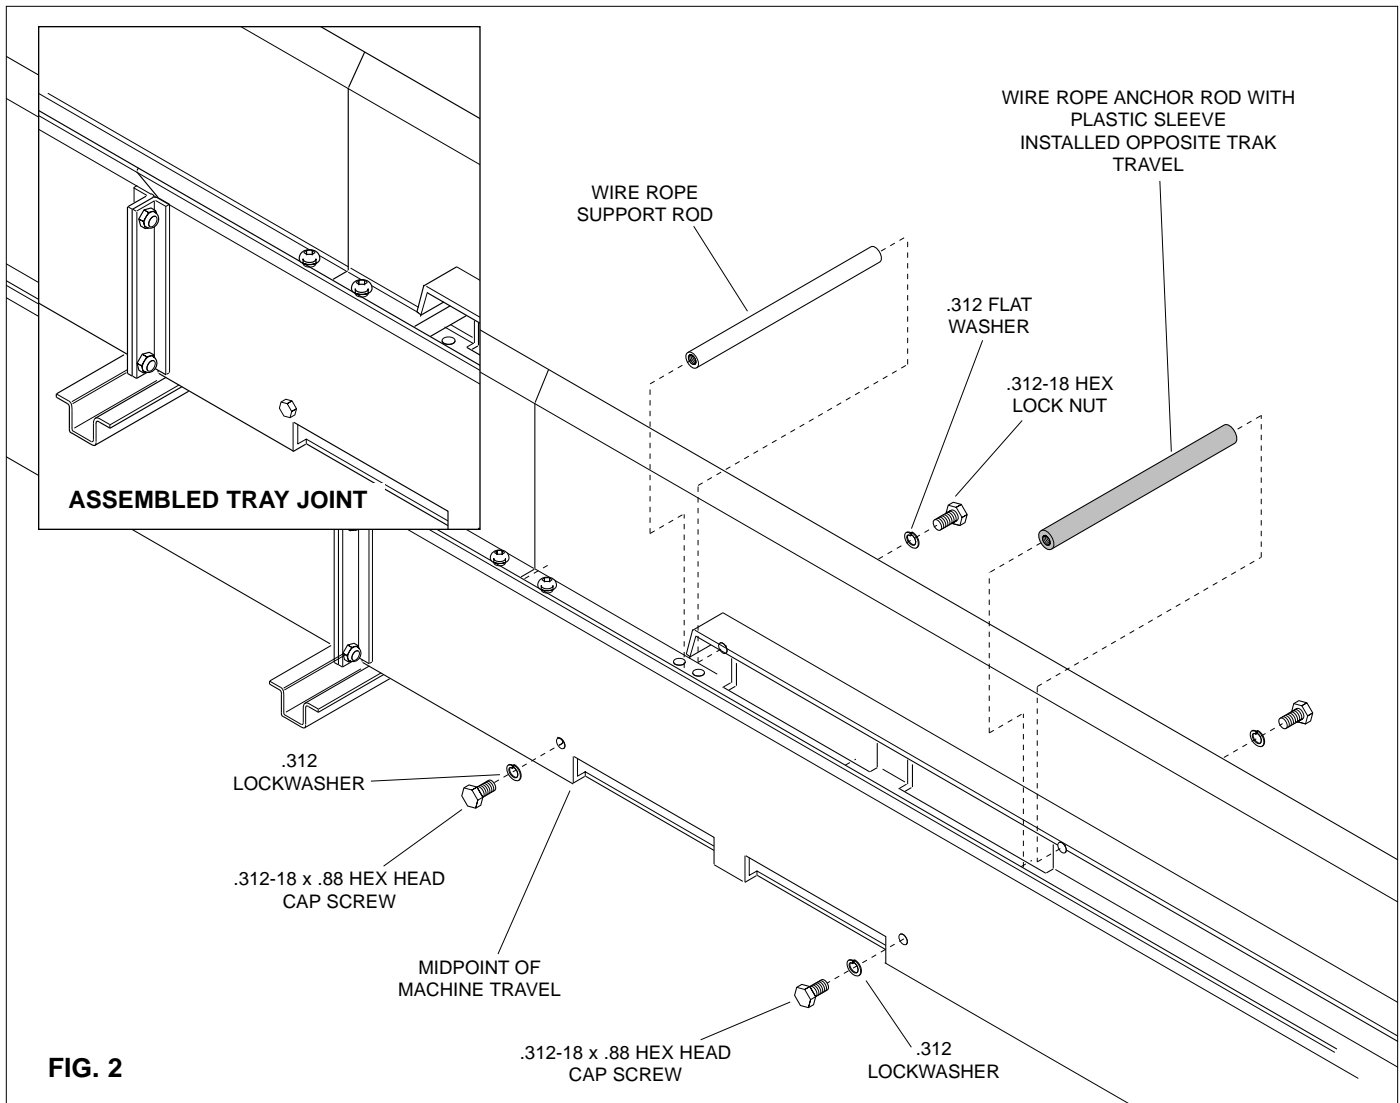

FIG. 2
STEP 3: Install wire rope support rod at end of access openings nearest trak. Install wire rope anchor rod (with plastic sleeve) at end of cable/hose access openings farthest from trak. Be sure there is a **lock-washer** on the .312-18 x .88 cap screws that screw into the rods. (See Fig 2). **DO NOT** fully tighten screws until tray is assembled and aligned.